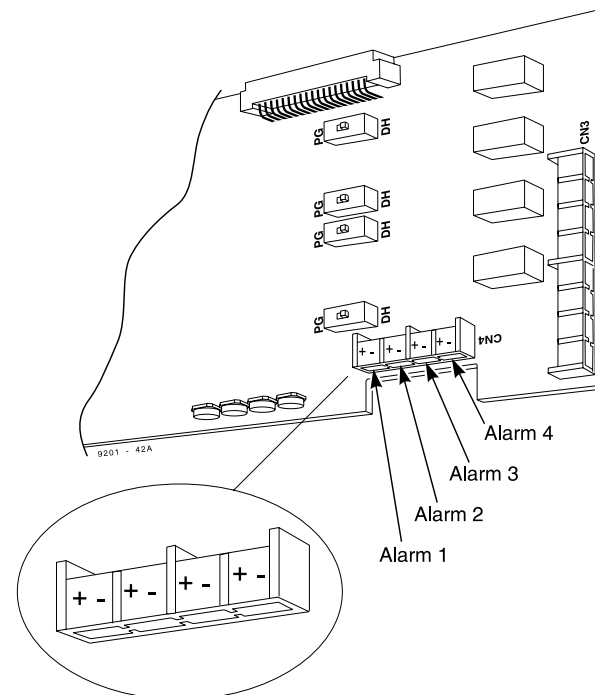

Figure 4-2 CONNECTING TO THE PGDU PCB
- The sensors are polarity sensitive and require the tip and ring be connected properly. Refer to Figure 4-2.
1. Locate an available DDK connector in a trunk (A) block or station (B) block.
4. Plug the DDK connector into the Alarm (1-4) connector on the PGDU PCB (Figure 4-2).